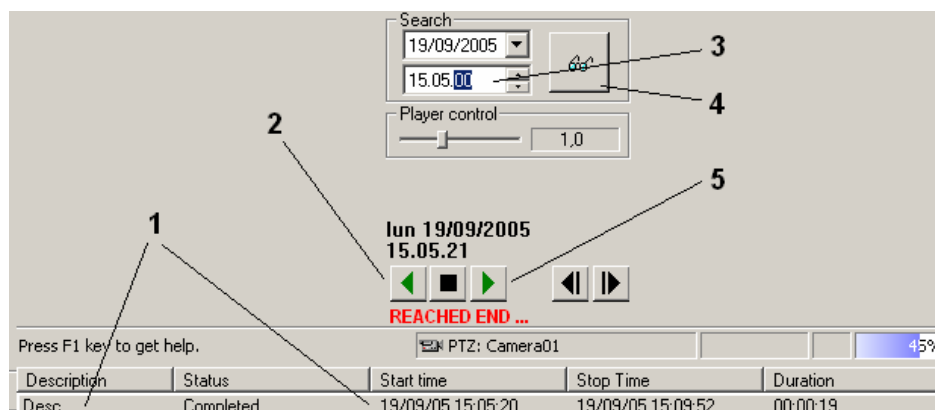

Fig 25 How to view pre-trigger images in the MX player
- In case of recorded video with a pre-trigger, note that the player does not directly show the pre-trigger time. For example, supposing you have recorded a video at time “t0” with pre-trigger set at “t0-pt”, the player initially starts at “t0” ignoring the preceding part. In order to show the images from the very beginning, you need to click the left (back) green arrow and reach “t0”, then manually enter a new starting time (earlier enough to get the previous images, up to “t0-pt) in the search field. This procedure (see Fig 25) unlocks the pre-trigger sequence to be shown and searched.